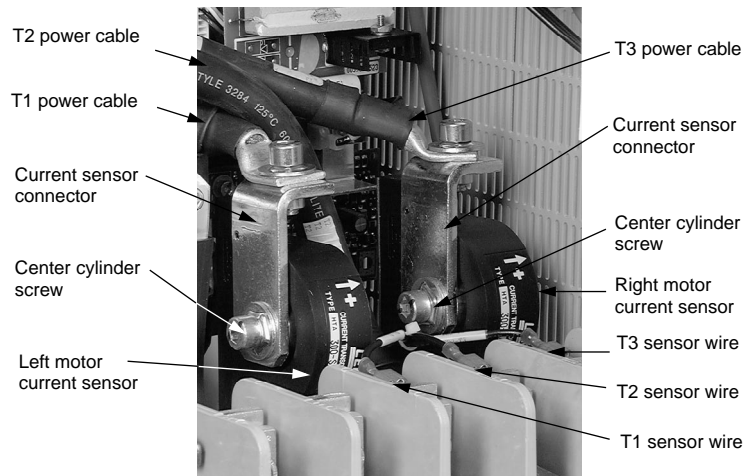

Figure 4.1.16: Motor Current Sensor Assembly
3. Using needle nose pliers, carefully disconnect and pull back out of the way the T1 sensor wire (see Figure 4.1.16).
4. Using a hex key wrench, loosen and remove the left sensor center cylinder screw (see Figure 4.1.16).
2. Using needle nose pliers, carefully disconnect and pull back out of the way the T3 sensor wire (see Figure 4.1.16 on page 4.1.32).
4. Using a hex key wrench, loosen and remove the center cylinder screw on the left side of the right current sensor (see Figure 4.1.16 on page 4.1.32). Pull the T3 power cable and current sensor connector back out of the way and remove the center cylinder.
4. While holding the T3 power cable and current sensor connector in place beside the right current sensor, install the center cylinder screw (see Figure 4.1.16 on page 4.1.32). Using the torque wrench and a hex key socket, tighten the center cylinder screw to 164 lb-in (18.5 N•m).
6. Using needle nose pliers, carefully reconnect the T3 sensing wire (see Figure 4.1.16).
5. While holding the T1 power cable and current sensor connector in place beside the left current sensor, install the center cylinder screw (see Figure 4.1.16). Using the torque wrench and hex key socket, tighten the center cylinder screw to 164 lb-in (18.5 N•m).
6. Using needle nose pliers, carefully reconnect the T1 sensing wire (see Figure 4.1.16).